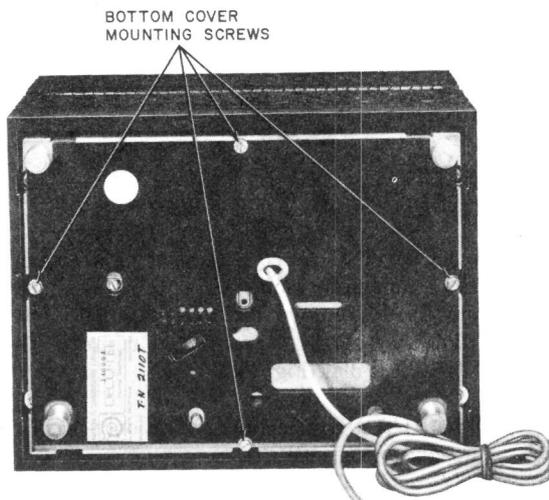

Fig. 7—881A100 or 2881A100 Telephone Set, Bottom View
- (1) Remove four bottom cover mounting screws from the bottom of the telephone set and remove the bottom cover (Fig. 7).